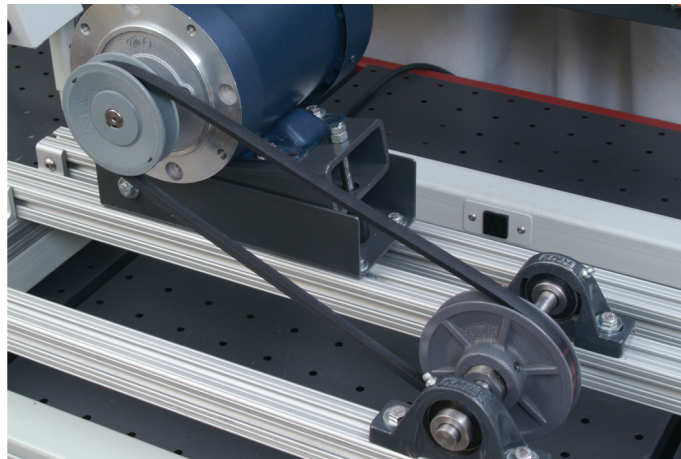

Figure 13. Variable speed belt drive.
The variable-pitch pulley supplied with your trainer has a pitch diameter that can be adjusted between 3.4 and 4.4 in. when used with a 4L (A) V-belt. Variable-pitch pulleys can be installed in pairs, or in conjunction with another pulley. A variable-speed belt drive composed of a variable-pitch pulley, a sheave, and a V-belt is shown in Figure 13.